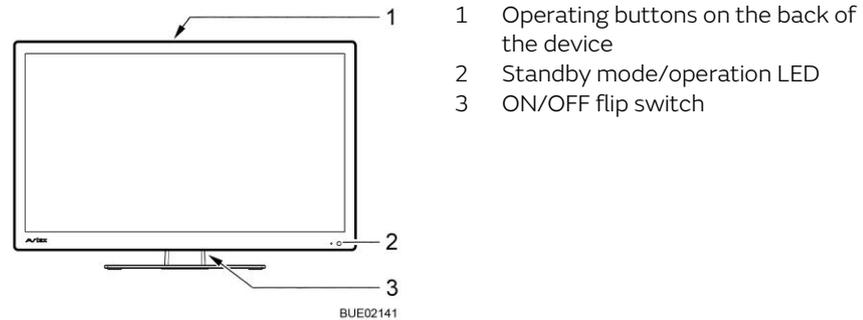
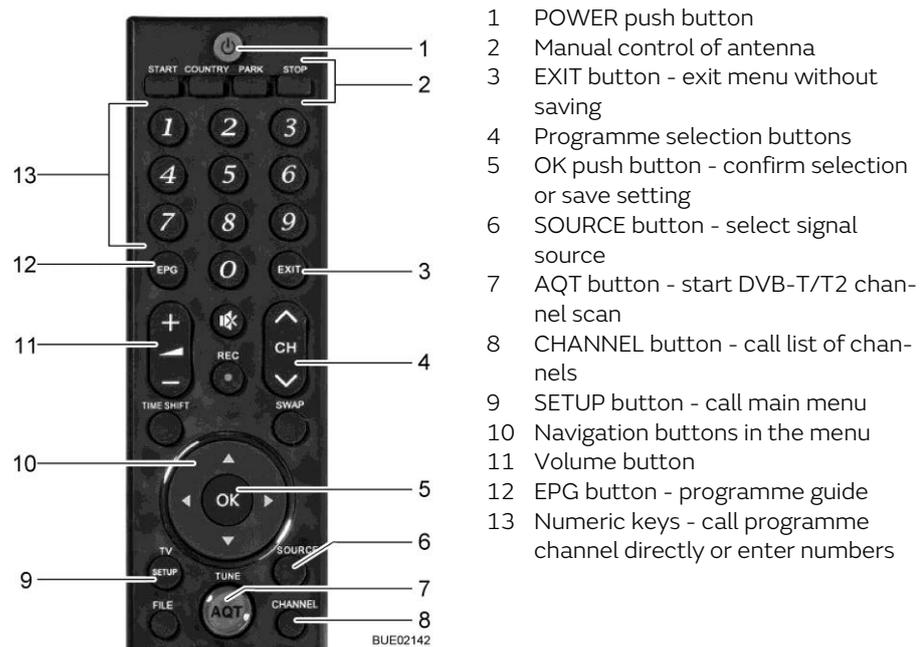

Fig. 29 Operation on the flat screen
Fig. 30 Remote control
Switching on the unit: ■ Set flip switch (Fig. 29,3) on the flat screen's back to ON. The system changes to standby mode. The LED (Fig. 29,2) is lit red.
■ Press the POWER button (Fig. 30,1) on the remote control. The LED (Fig. 29,2) is lit blue.
- Press the programme selection buttons (Fig. 30,4 or Fig. 30,13) until the desired TV programme has been selected.
- Press the SOURCE button (Fig. 30,6) repeatedly until the desired signal source has been selected.
- Press the PARK button (Fig. 30,2). The antenna moves into parking position.
- Press the SOURCE button (Fig. 30,6) repeatedly until the desired signal source (e.g. DVD) has been selected.
- Press the POWER button (Fig. 30,1) on the remote control. The system changes to standby mode. The LED (Fig. 29,2) is lit red.
- Set flip switch (Fig. 29,3) on the flat screen's back to OFF.